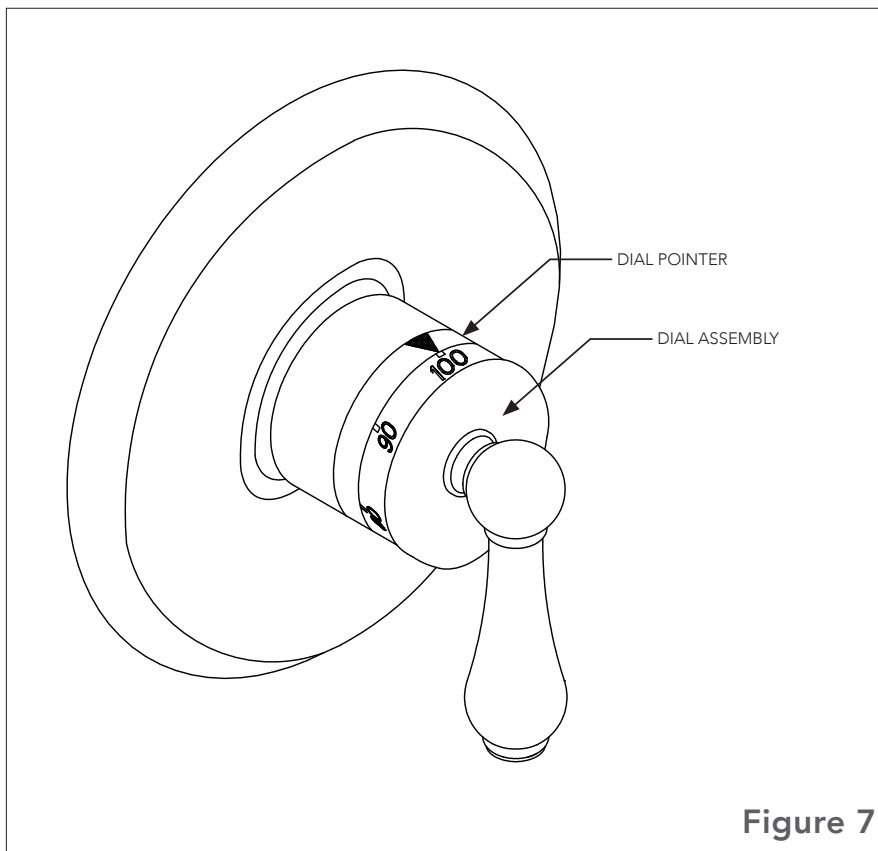

Figure 7
(10) Dial Pointer, Trim and Handle Installation
- A. Push the dial pointer on to sleeve with pointer on top at 12 o'clock position. See Fig. 7.
- C. Install dial assembly on to spindle aligning the 100° to the dial pointer. See Fig. 7
(11) Valve Operation